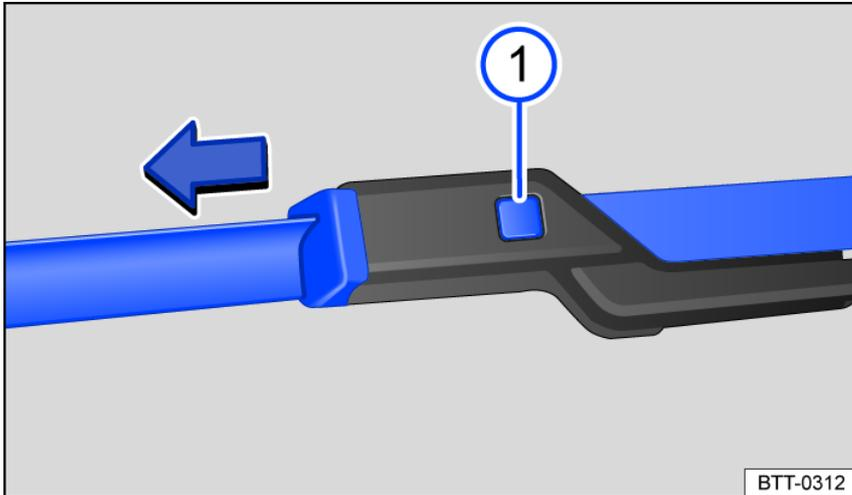

Fig. 176 Changing the windshield wiper blades.
① Unlock button of the wiper blade.
3. Press and hold the release button and remove the wiper blade at the same time in the direction of the arrow *fig. 176* ①.